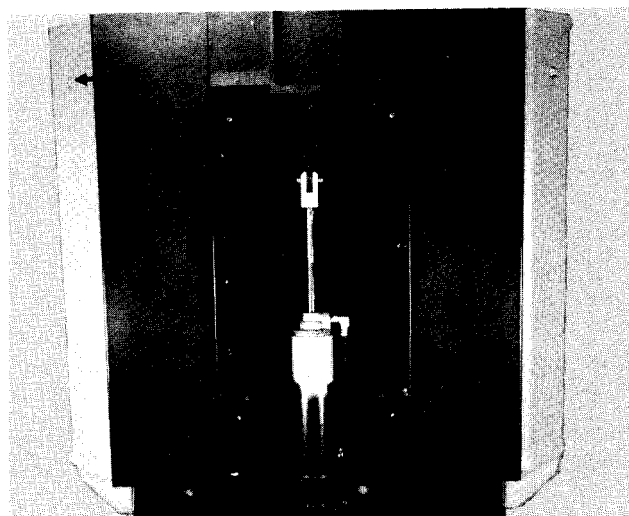

Fig. 8
- 2) Remove the (4) screws located inside the recessed area of the metal back frame. (Item A, Fig. 8.)
- 1) Place upholstered back section on the back frame with the tear strip snaps Item B, Fig. 8 toward the headrest and align mounting holes.
- 2) Install (4) #10-24 x 5/8" screws through the back frame and the upholstered section. Draw screws up tightly.
- 3) Install metal panel on the metal frame with (4) #6-32 x 1/4" screws.